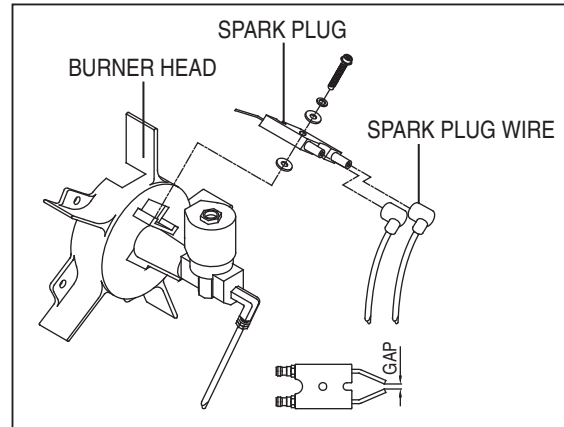

Figure 9. Spark Plug
- Remove spark plug wire from spark plug (See Figure 9)